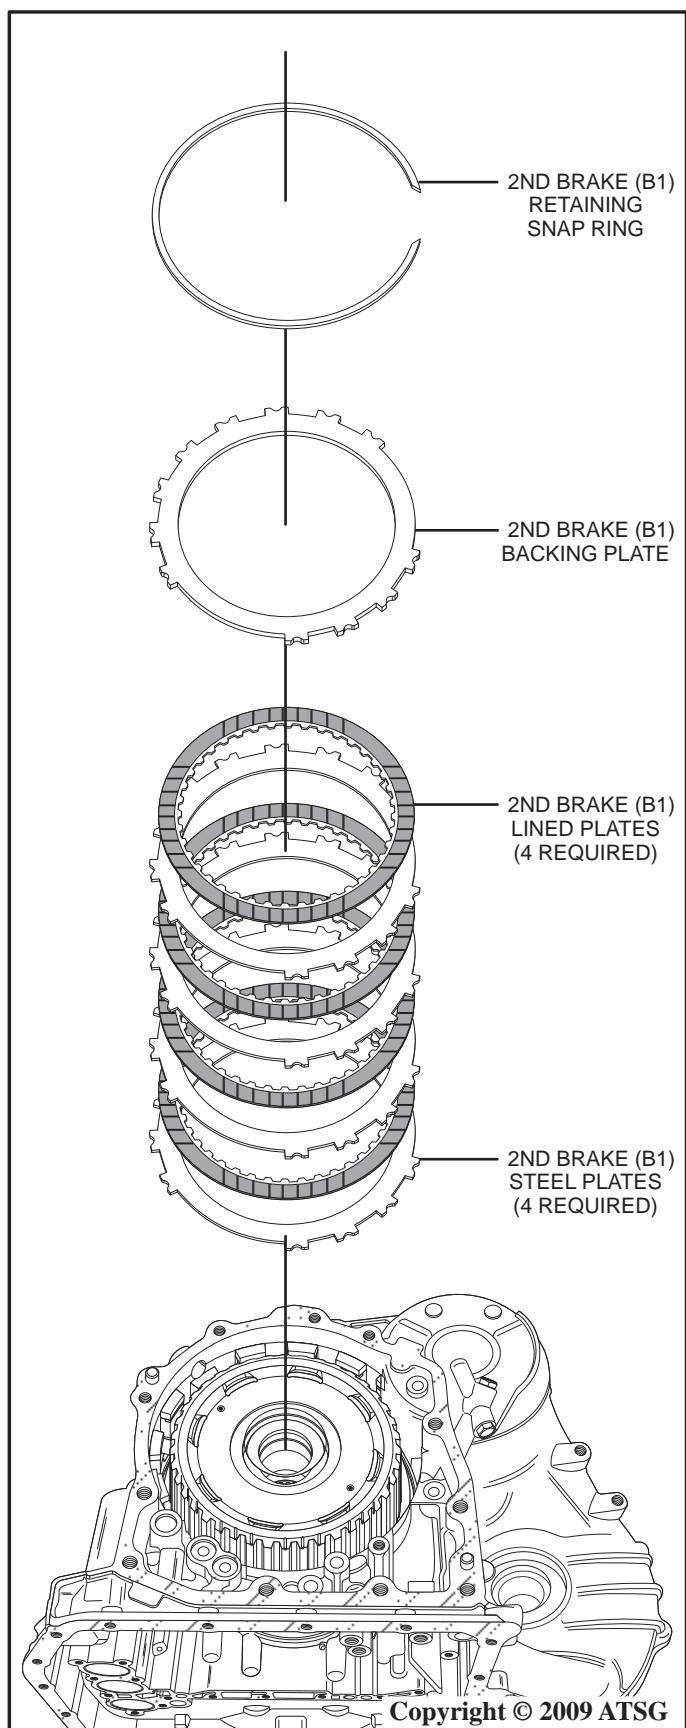

Figure 167
41. Install the 2nd brake (B1) clutch plates into the case beginning with a steel plate, then alternating frictions and steels until there are four steel plates and four lined plates in the case as shown in Figure 167.
42. Install the 2nd brake (B1) backing plate and the retaining snap ring as shown in Figure 167.